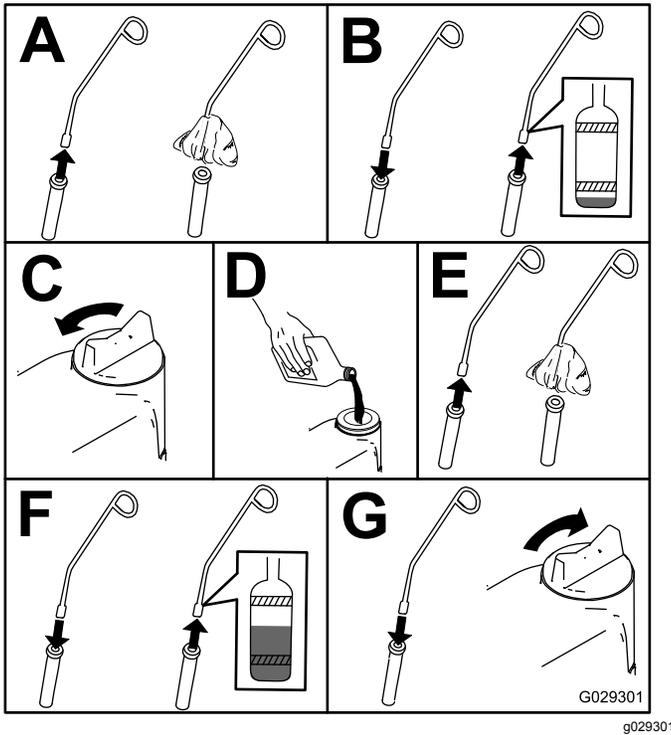

Figure 48
3. Check the engine-oil level as shown in Figure 48.